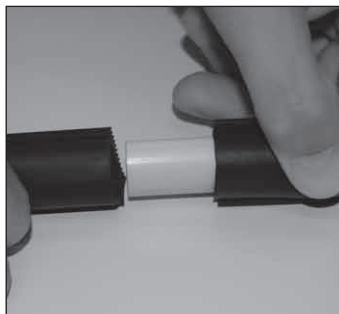

Figure 5
- b. Install the plastic connector supplied with the Water Dam into both ends of the Water Dam so that no gap exists between the ends. **Figure 5 and Figure 5a**